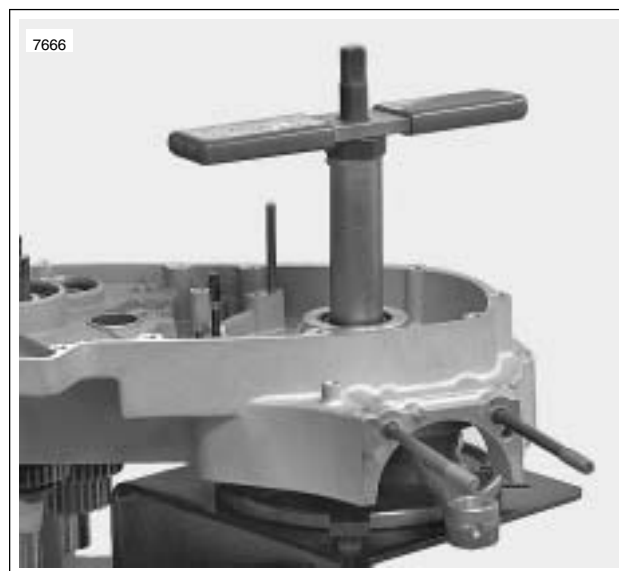

Figure 3-130. Installing Flywheel Spacer and Outer Bearing
9. See Figure 3-130. Install shim and outer bearing.